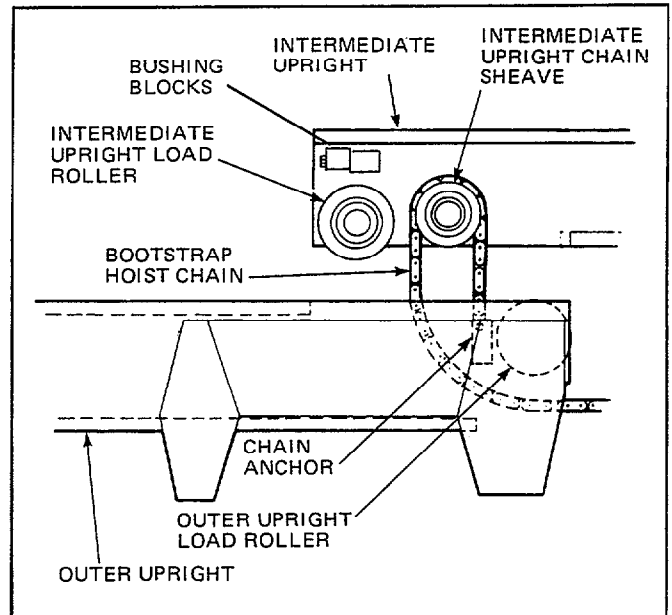

Figure 36. Intermediate Upright Installation
5. Using a sling and hoist or some other appropriate lifting device, position the intermediate upright over the outer upright as shown in Figure 36.
6. Position the bootstrap hoist chains over the intermediate upright sheaves as shown in Figure 36.
12. The intermediate upright bushing blocks can be adjusted to four positions. See Figure 36. Adjust the bushing blocks to the tightest position that allows free travel of the uprights. Tighten the capscrews to a torque of 35–40 ft.-lbs.